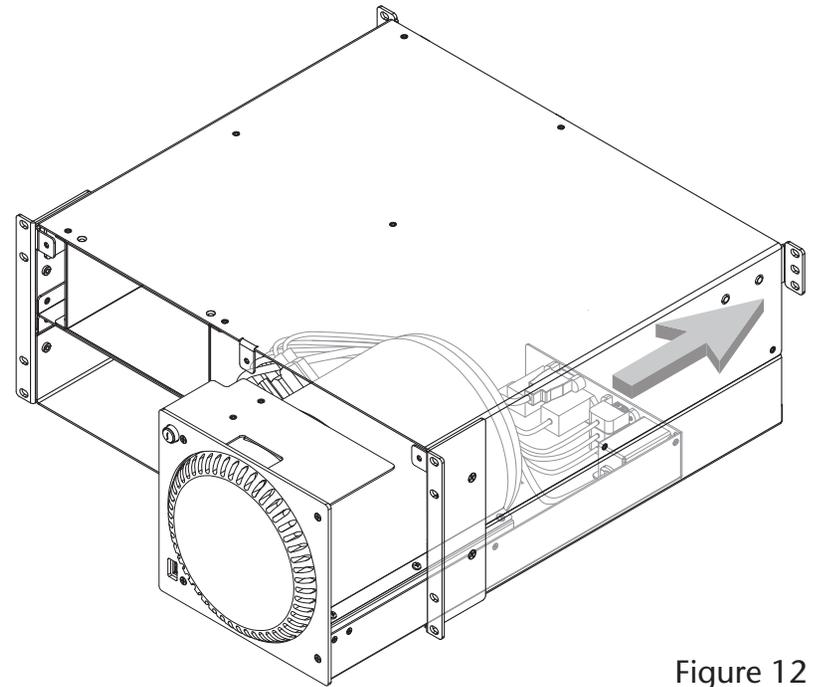

Figure 12
- Carefully slide the computer mounting module into the rackmount enclosure until it stops (Figure 12).